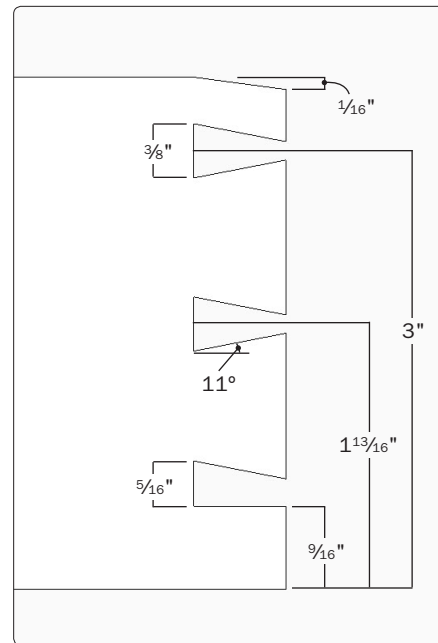
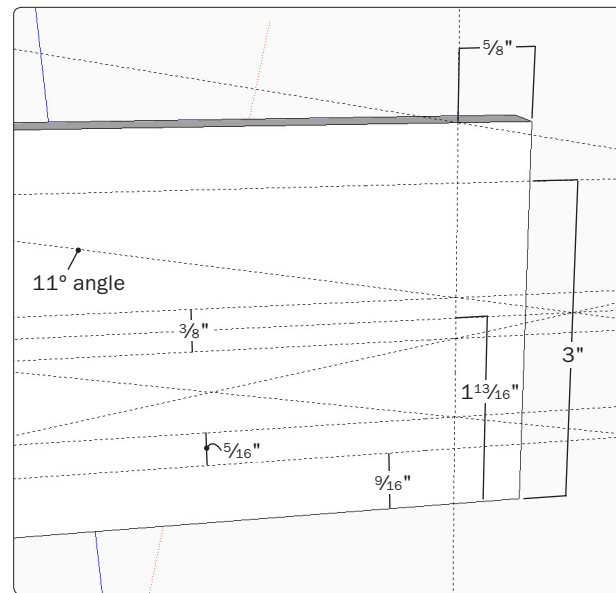

Figure 51. Measurements for the rear dovetails.
Figure 55. Place guidelines to lay out the rear dovetails.
Step 44 The rear dovetails are similar but not identical to those on the front, as Figure 51 shows. Use the Tape Measure Tool to place all the layout lines shown in Figure 55. Use the Protractor Tool to draw the angled guide lines, which are all 11 degrees.